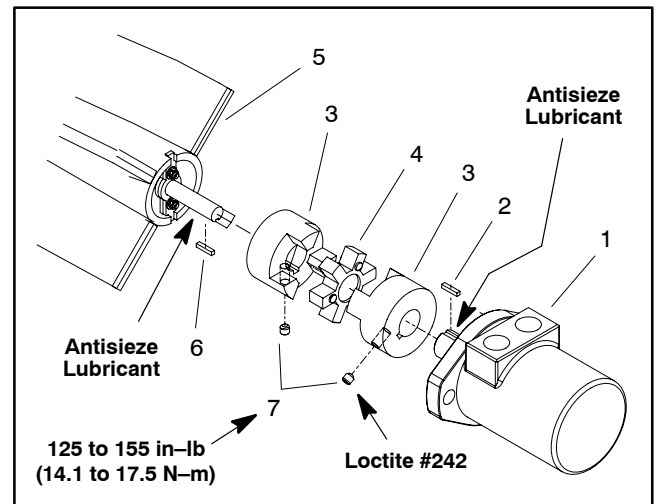

Figure 9
5. Secure pivot mounts to frame with cap screws (item 2) and lock nuts (item 3). Torque lock nuts from 45 to 55 ft-lb (61 to 75 N-m).
6. Install hydraulic brush motor to brush housing (see Hydraulic Brush Motor Installation in the Service and Repairs section of Chapter 3 – Hydraulic System). Make sure that coupling jaws have a gap between coupler jaw valleys from .830" to .930" (21.1 to 23.6 mm). Apply Loctite #242 (or equivalent) to threads of coupling set screws. Secure coupling jaws to motor shaft and brush shaft by torquing set screws from 125 to 155 in-lb (14.1 to 17.5 N-m) (Fig. 9).